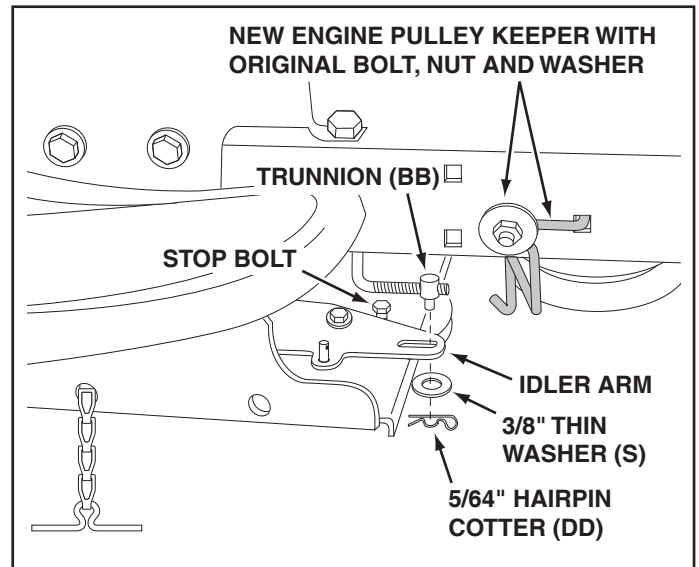

FIGURE 33 **RIGHT SIDE VIEW**
STEP 33: (SEE FIGURE 33)
- Pivot the upper idler arm so that it rests against the stop bolt and is pointing toward the front as shown. Screw the trunnion (BB) along the threads of the engagement rod until it is aligned at the front end of the idler arm slot. Attach the trunnion (BB) to the slot using the 3/8" thin washer (S) and a 5/64" hairpin cotter (DD).